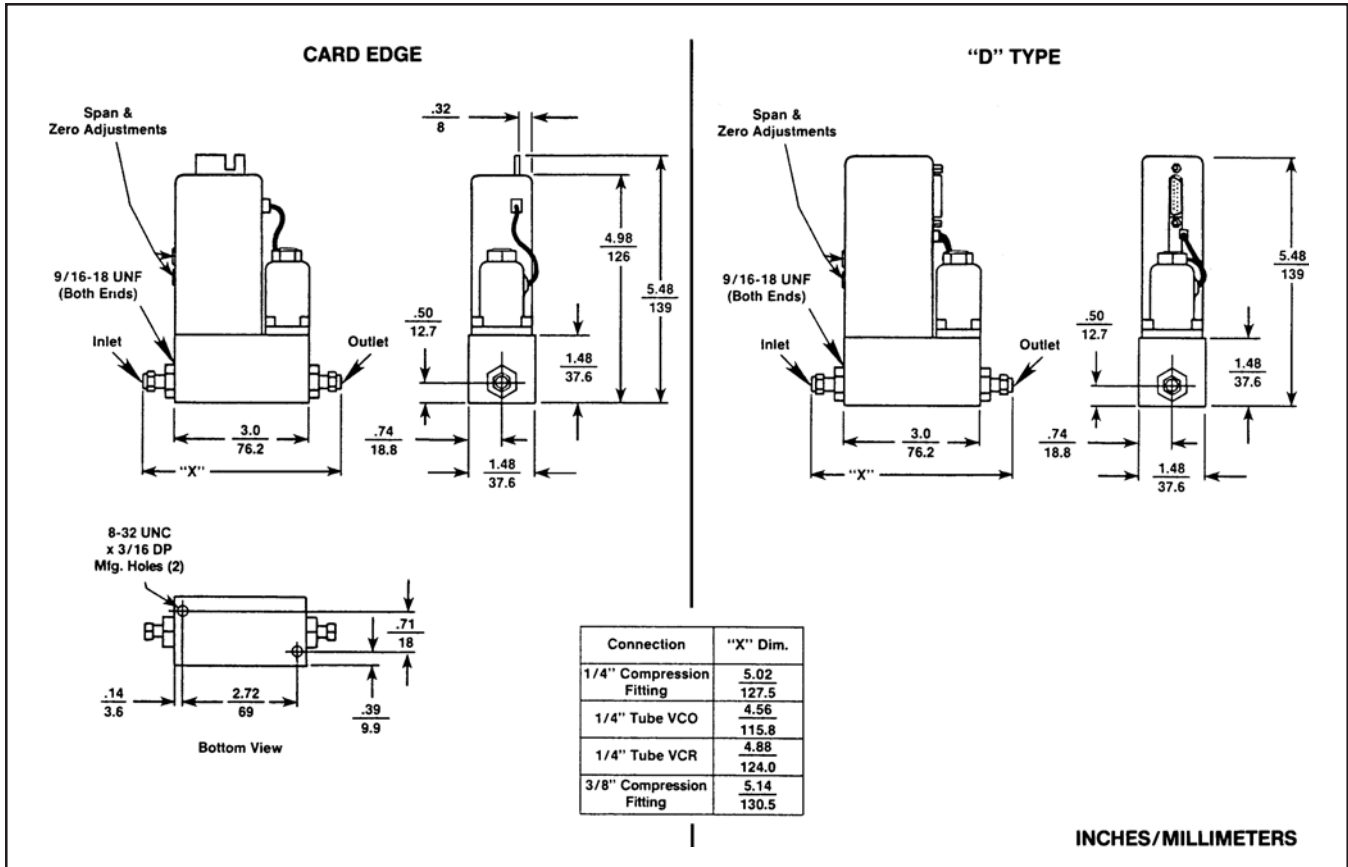

Figure 2-1 Model 5850E Dimensions
Compatible with most popular mass flow controllers. Refer to Figure 2-1.
**2-5 Installation (Refer to Figs. 2-1 through 2-4)****⚠ CAUTION**